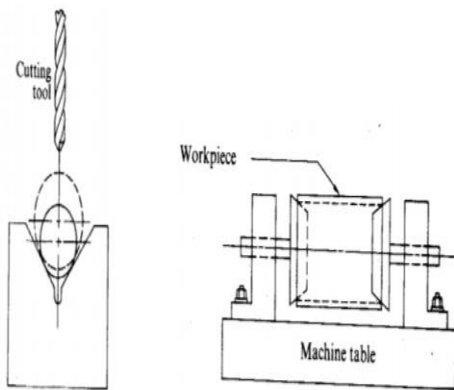

Fig. 8.1.6 Locating by Vee block and cone.
- ✓ Vee block and cones should be used for self-locating solid and hollow cylindrical jobs as typically shown in Fig. 8.1.6